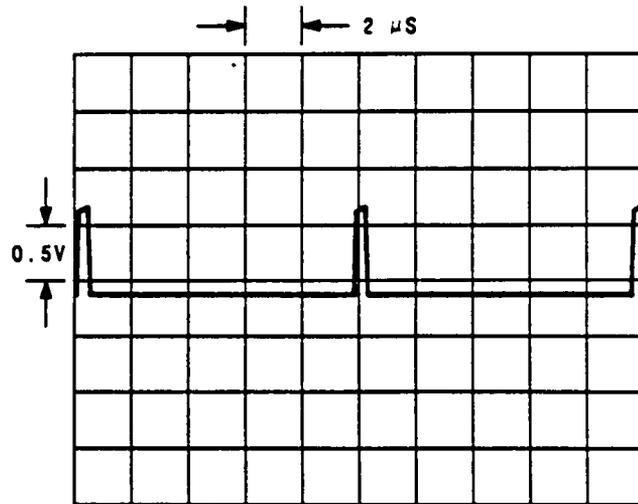

Figure 10. Oscilloscope Display of TP12 (dc coupled), W3 in position W3B (service position), Signal Generator's frequency 950 MHz.
5. Verify that the waveform in Figure 10 is correct.